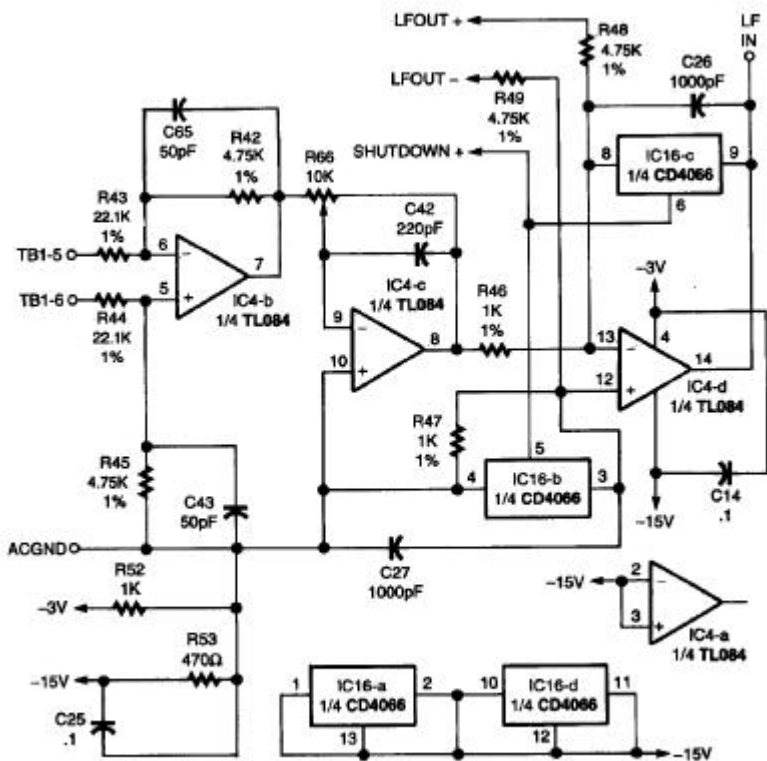

Fig. 7. The preamplifier conditions the input signal for pulse-width modulation.
**Pre-amplifier.** The pre-amplifier, shown in Fig. 7, is used to remove noise and condition the input signal for the drive circuit. It is also a part of the control loop for the output-drive circuit, and will be discussed later in this article.